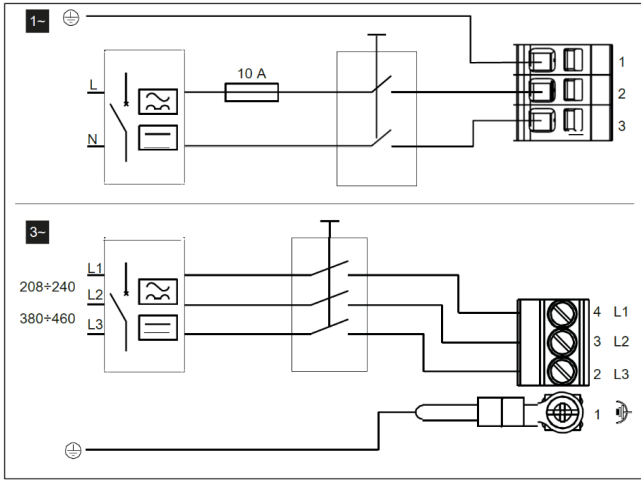

Figure 14: Wiring diagram
2. Insert the power cable in the M20 cable gland (5)	Fig 14